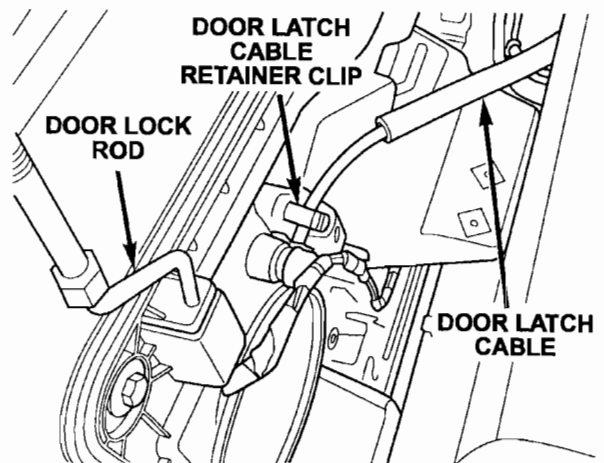

Figure 4
10. Verify that the door latch cable is snapped into the cable retainer clip and then install the door trim panel to the door (Figure 4).